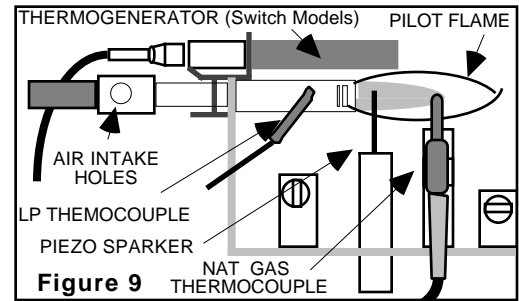

Figure 9
The Pilot flame should be steady and soft blue surrounding 1/8 inch of the thermocouple tip as shown in **Figure 9**.
IMPORTANT SERVICE TIP! Obstructed Pilot Air Intake Ports result in an improper gas/air mixture and a weak pilot flame. **Weak pilot flame is the NUMBER 1 SERVICE ISSUE RE NUISANCE SHUT-OFF.** Using canned compressed air, pipe cleaner or an artist's brush, clean out the opposing Air Intake Ports located at base of Pilot (where gas supply line attaches to pilot). (**Figure 9**)
- Keep the area around the **CHILLBUSTER** free and clear from debris. From time to time, visually check pilot and burner flames for proper appearance (**Figures 9 and 10**). Normal flame color should be yellow body **surrounded by a hard blue haze**.
- Obstructed Pilot Air Intake Ports result in an improper gas/air mixture and a weak pilot flame. **Weak pilot flame is the NUMBER 1 SERVICE ISSUE RE NUISANCE SHUT-OFF.** Using canned compressed air, pipe cleaner or an artist's brush, clean out the opposing Air Intake Ports located at base of Pilot (where gas supply line attaches to pilot). (**Figure 9**)